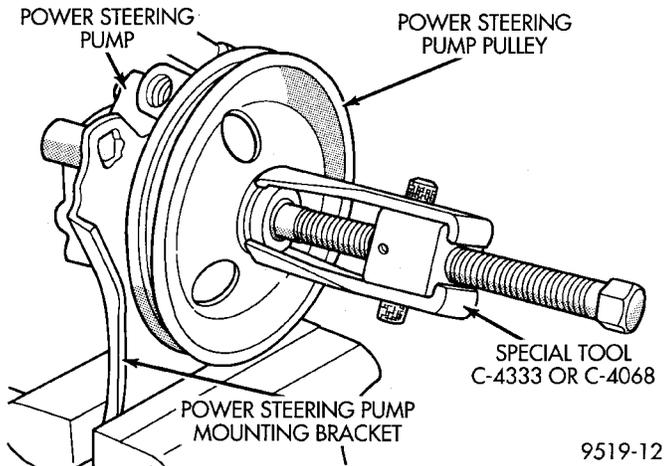

Fig. 36 Pulley Removal From Power Steering Pump Shaft
(2) Mount power steering pump in a vise using the power steering pump mounting bracket (Fig. 36). Install Puller, Special Tool C-4333 or C-4068 on power steering pump pulley (Fig. 36). Remove the power steering pump pulley from the power steering pump shaft.
(3) Replace power steering pump pulley if bent, cracked, or loose.